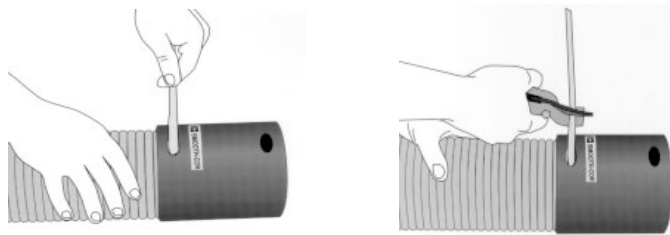

Figure 28
5. Insert the Key-Lock™ strip following the directional arrow into the pre-drilled hole in the coupler. Apply a small amount of lubricant to aid in the insertion. Push the Key-Lock™ strip (in the direction of the arrow on the label) around the entire circumference, locking the grooves in the conduit and coupler securely together. Trim the excess Key-Lock™ strip material from the coupler (optional). See Figure 28 below.